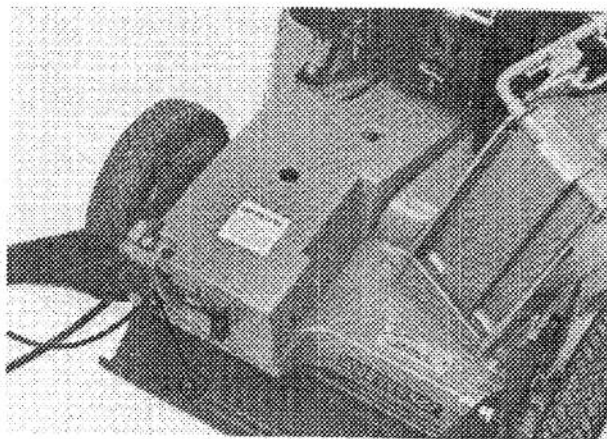

Figure 31
3. Rotate adjustment knob (Fig. 31) 1/2 turn clockwise to tighten drive belt, or 1/2 turn counter-clockwise to loosen belt. Hold control cable while rotating knob to prevent cable from turning.